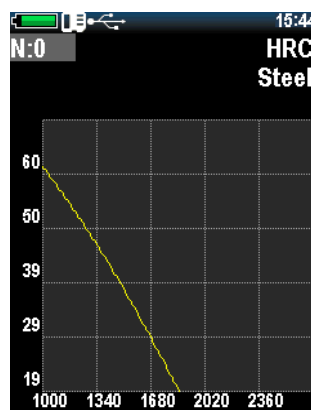

Figure 2.35 – The Graduation window
3. Press <  >, and the calibration window will open on the display (Figure 2.35).